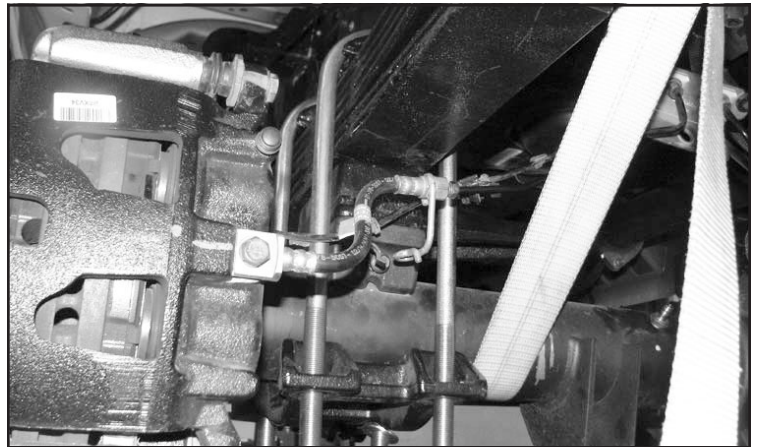

FIGURE 4 - STEP 5
5. Install the new leaf spring into the original spring location using the factory shackle and hanger bolts. Torque to the front and rear leaf mount hardware to 185 ft-lbs. Use the supplied u-bolts to secure the new leaf spring to the axle. **NOTE: The factory block will be reused in the factory location. Torque the u-bolts to 179 ft-lbs. SEE FIGURE 4**